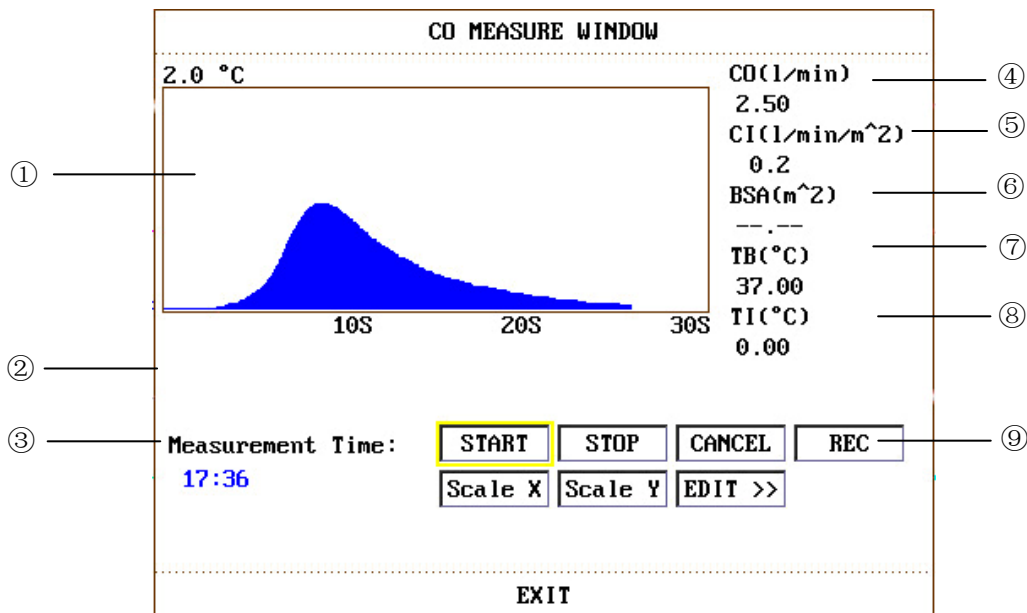

Figure 18-2 C.O. MEASURE WINDOW
Measurement should be taken when the message “**Ready for new measurement**” appears on the screen (② in the Figure 18-2). Press the **START** button, and then start injection. The thermodilution curve, current blood temperature and the injectate temperature are displayed during the measurement. Curve drawing will stop automatically when the measurement completes, and the C.O. and CI (④ and ⑤ in Figure 18-2) will be calculated and displayed on the screen. The monitor will also display the C.O. in the Parameter Area, as well as the remaining time to the next measurement (② in the Figure 18-2).
To ensure the accuracy of the measurement, it is suggested that a reasonable interval should take place between two consecutive measurements. The length of the interval can be set in the **CO SETUP** menu (Time unit: second). The interval time counter (② in the Figure 18-2) is displayed on the screen. The next measurement can not be performed until the time reduces to zero and a prompt message “Ready for new measurement” appears.